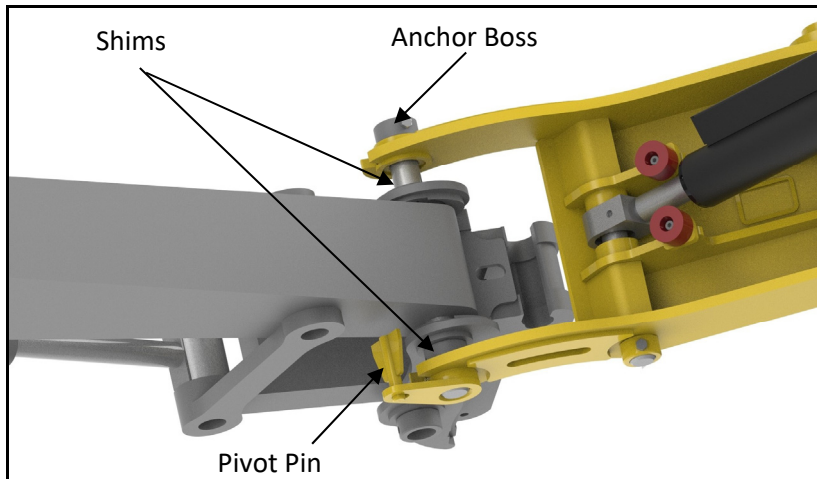

Figure 4 PIVOT PIN INSTALLATION
6. Fit the Anchor Boss to the end of the Pivot Pin and retain using the bolt with the two nuts. See Figure 4